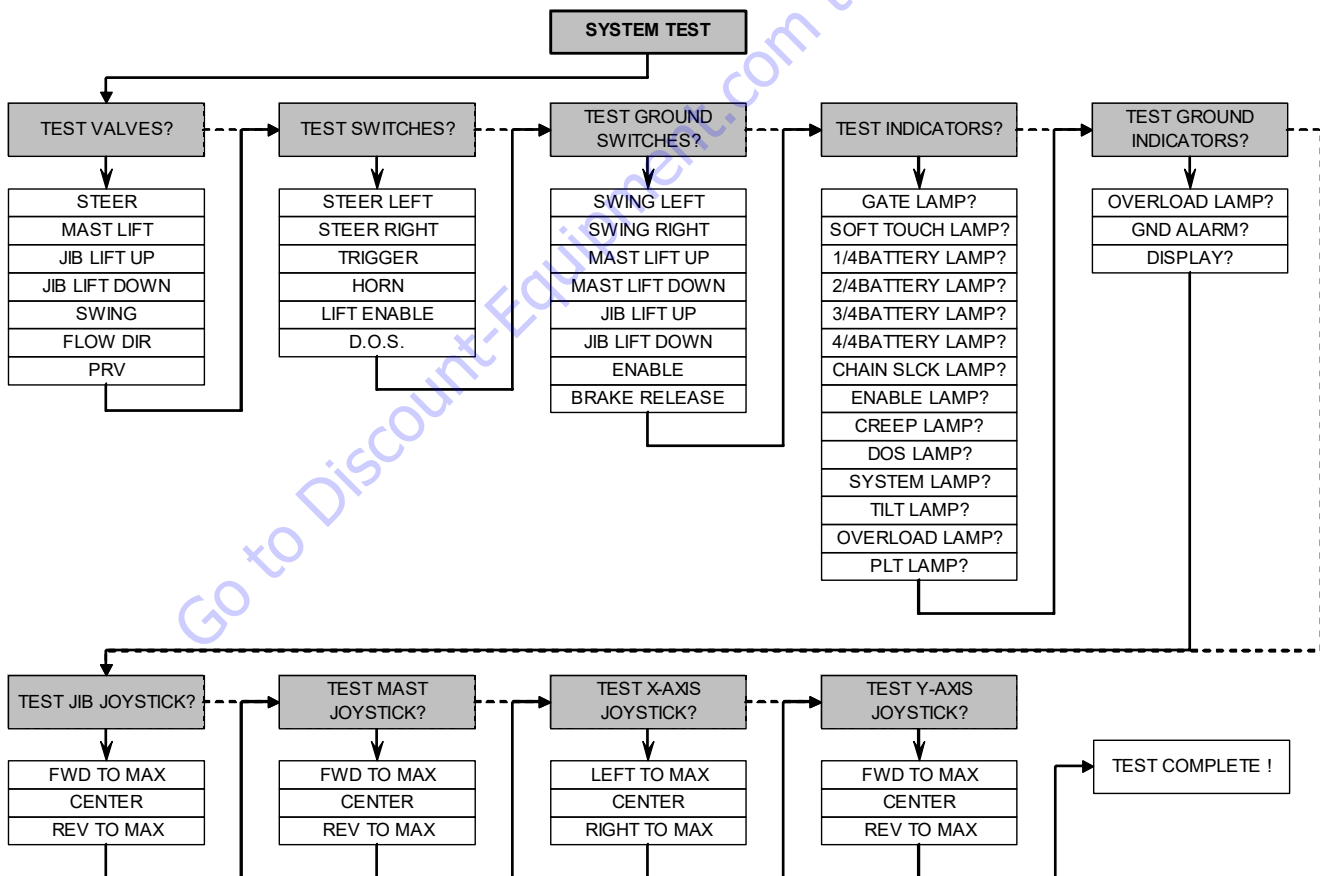

Figure 9-9. System Test Flow Chart
6. Follow the flow path in Figure 9-9., System Test Flow Chart and go through the component tests. Hit ESC key during any part of the test to return to the main menu without completing all tests or wait until all tests are complete. During the TEST SWITCHES sequence, the analyzer allows control switches to be operated and shows if they are closed (CL) or open (OP). During the TEST INDICATORS sequence, the operator is prompted to confirm (by pressing ENTER key) that the named lamp is lit.